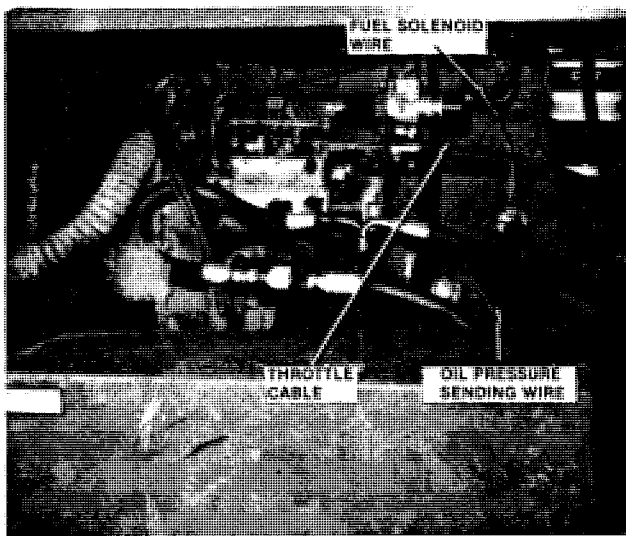

FIGURE 2-8: Fuel Solenoid
26. Disconnect oil pressure sending wire at sender. Label (Figure 2-8).